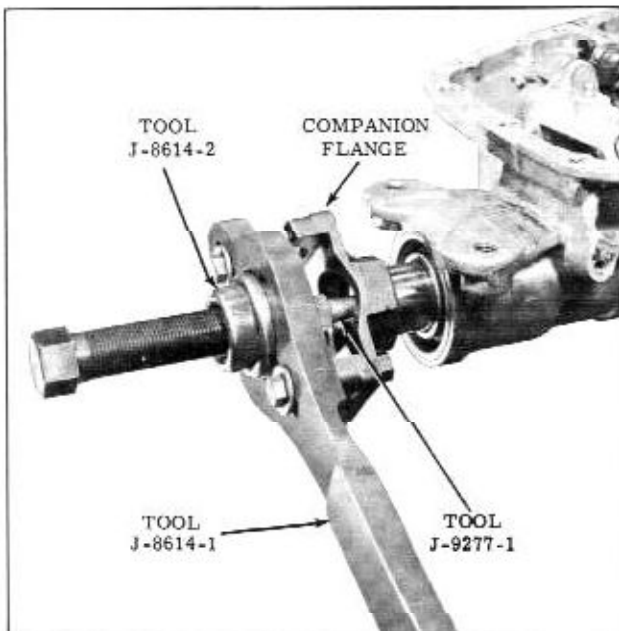

Fig. 3-33 Removing Companion Flange
21. Engage the parking pawl to hold output shaft and remove the companion flange attaching bolt, and companion flange using Tool J-8614. (Fig. 3-33)